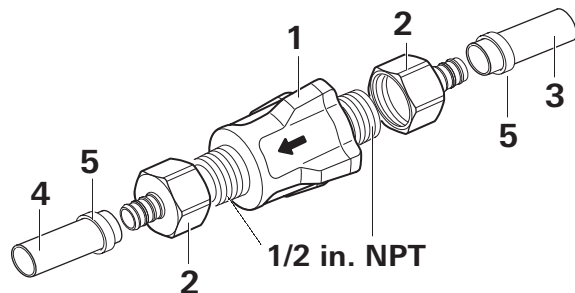

Fig. 29 Installation example
- Truma recommends use of the Truma Water Pressure Regulator (Fig. 29 – 1) or a similar device which reduces pressures below 40.6 psi (2.8bar) to protect the Combi container from overpressure.